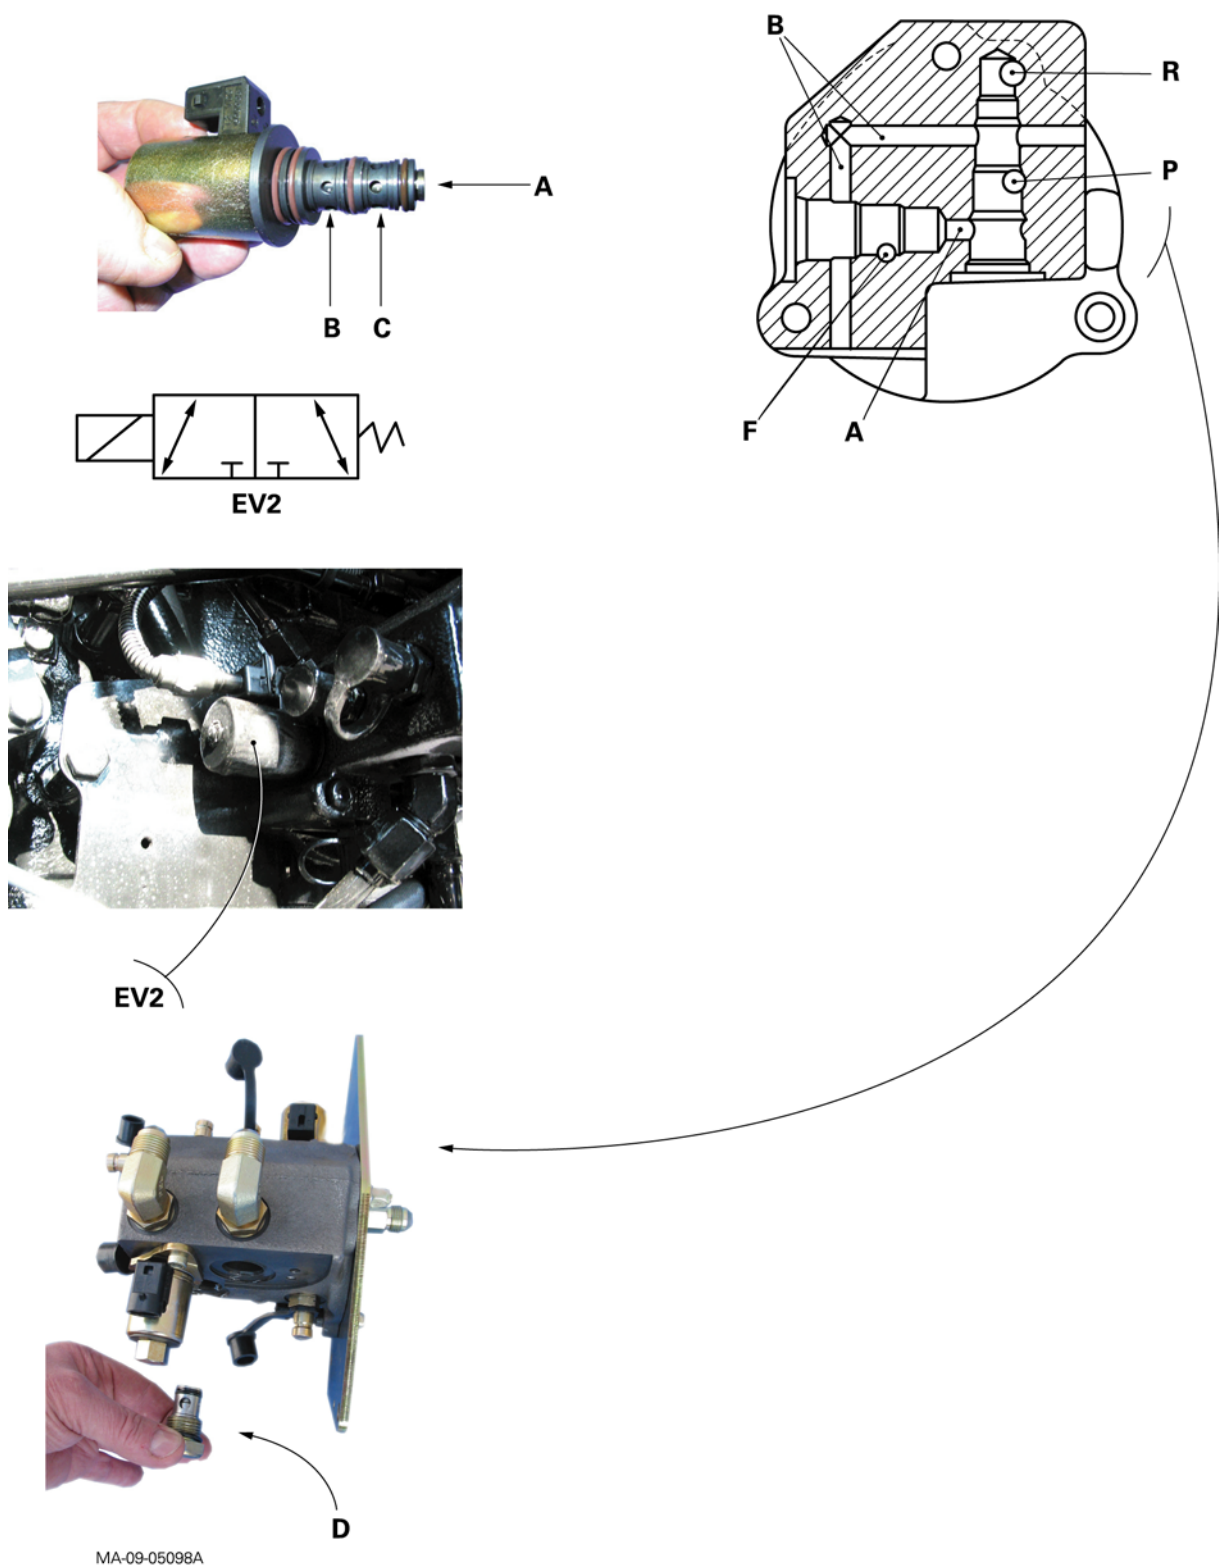

Fig. 9
(Fig. 9)
Identification of ports (Fig. 9)
6. Mark and disconnect the connector on solenoid valve EV2 of the Speedshift (Fig. 9) as well as those of the proportional solenoid valves (12) (11) of the power shuttle forward and reverse clutches (Fig. 3).